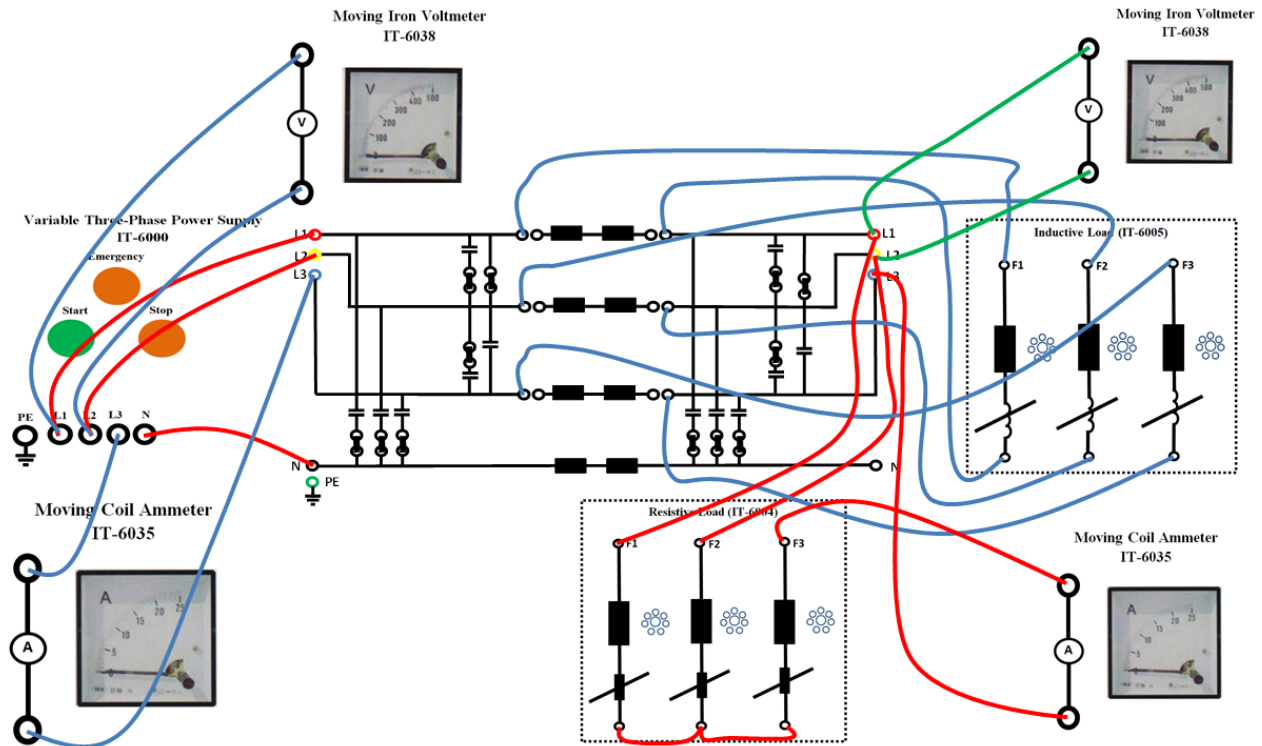

Figure 02: Connection diagram of open ended experiment for resistive loads
1. Connect the circuit as shown in Figure 02.